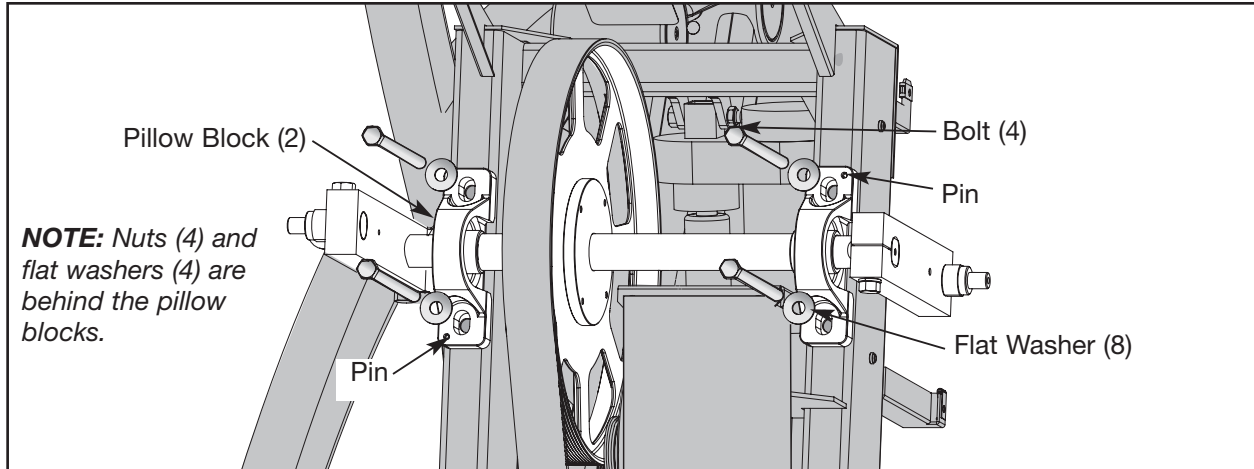

Figure 12
**A.** Using a 9/16" socket wrench and a 9/16" open end wrench, remove the two bolts, four flat washers and two nuts from each of the top pillow blocks. See Figure 12.
- A. Confirm that a pin (removed in step 9B) protrudes about 1/4" out of the back of each pillow block. **NOTE:** The pins will slide into the frame in the next step. See Figures 12 and 13.
- C. Using a 9/16" socket wrench and a 9/16" open end wrench, secure the two bolts, four flat washers and two nuts (removed in step 9A) to each pillow block. See Figure 12.
- B. Confirm that the secondary drive belt is straight and centered on the lower pulley. See Figure 12.